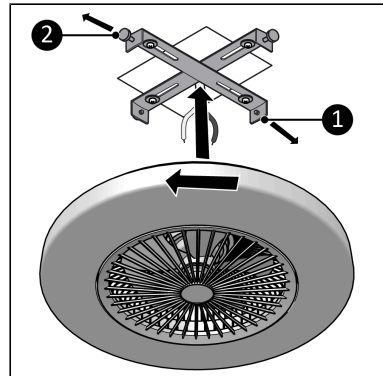

Figure 24.
9. First remove the two screws from the mounting bracket that are not intended for the L-shaped slotted holes (Figure 24, 1 & 2).